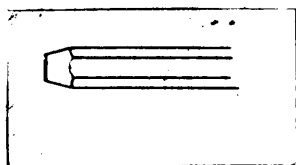

Figure 1.
1. Heat one end about 1" and head stock. (Figure 1). Head as shown in job "Making A Punch". The same rule applies as to the heading of the chisel as did to the punch, that is, head according to the size of stock being used. Smooth head on grindstone when the cutting edge is ground.